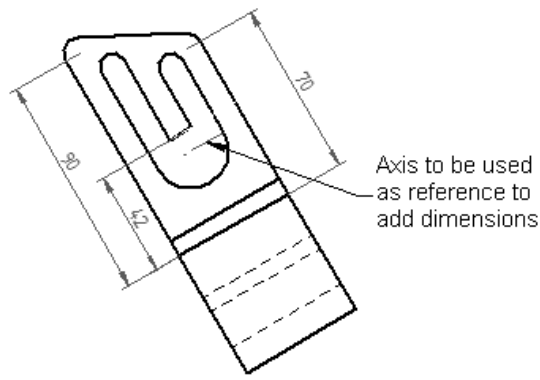

Figure 12-43 Axis drawn to dimension
7. Choose the **Distance Between** tool from the **Dimension** group of the **Home** tab and then select the **By 2 Points** option from the **Orientation** drop-down list in the command bar. Dimension the auxiliary view with dimensions 90, 42, and 70, as shown in Figure 12-43.
8. To dimension the auxiliary view with dimensions 45, 25, and 33, draw an axis such that it passes through the center of the arc, as shown in Figure 12-43.